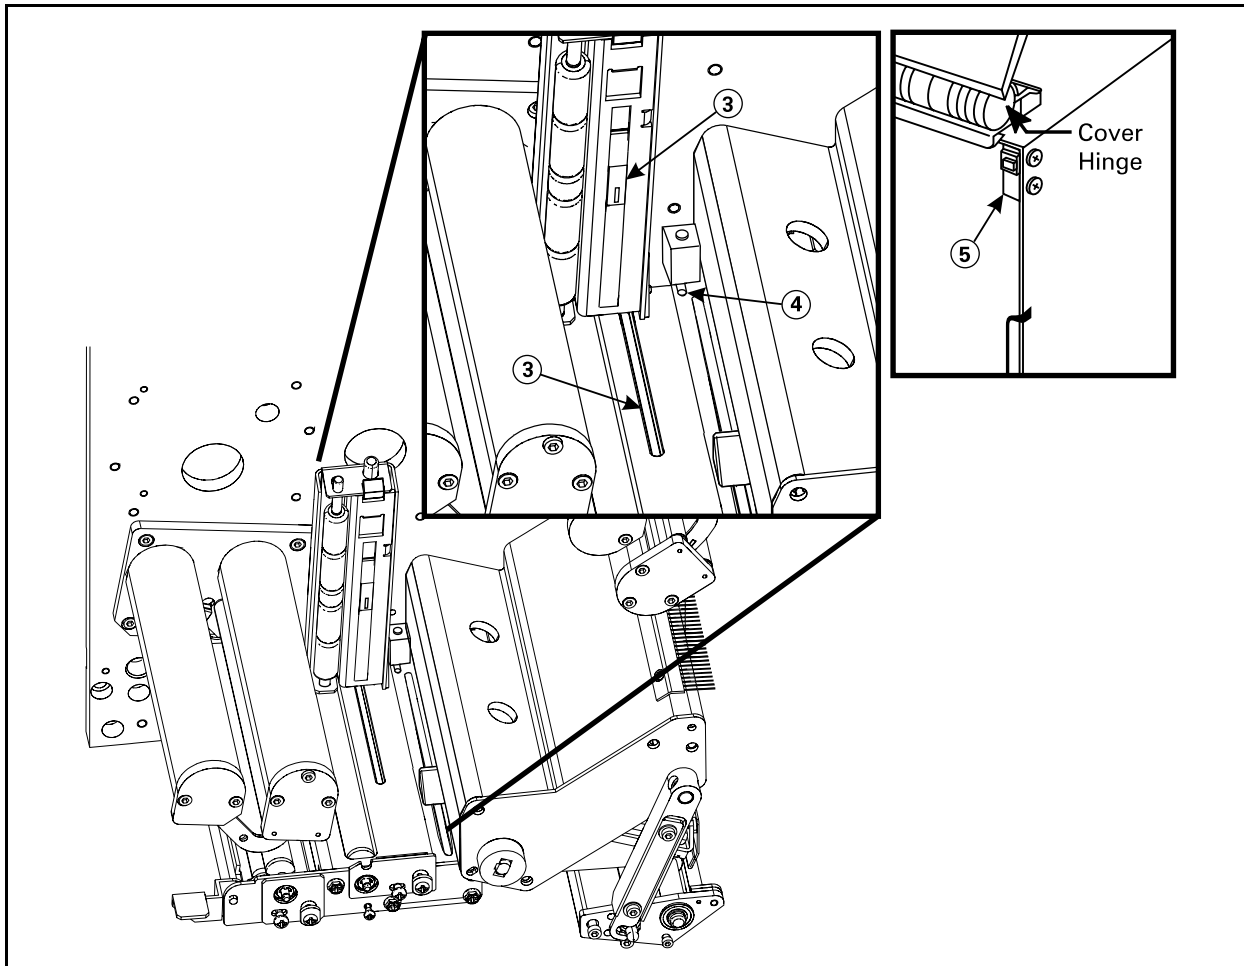

Figure 9. Sensor Locations (RH)
See Figures 9 and 10 for parts locations.
To ensure proper operation of the print engine, all sensors should be cleaned on a regular basis. To locate the position of the media and door-open sensors, refer to Figure 9. Refer to Figure 4 on page 7 and Figure 5 on page 8 for the ribbon sensor and ribbon sensor reflector.
1. Open the printhead assembly (B) by lifting the printhead latch (C) upward away from the locking pin (D). Remove the media and ribbon.
2. Brush, vacuum, or air blow any accumulated lint and paper dust away from the rollers. *It is good practice to clean the media, ribbon, and door-open sensors at this time. See Figure 9, Figure 4 on page 7, and Figure 5 on page 8.*
3. Use a cleaning swab saturated with alcohol to wipe the print elements from end to end. The print elements form the grayish/black strip (1) just behind the chrome strip on the underside of the printhead. Allow a few seconds for the solvent to evaporate.
4. Use a lint-free cloth moistened with alcohol to clean the platen roller (2) and other rollers. Rotate the rollers while cleaning.